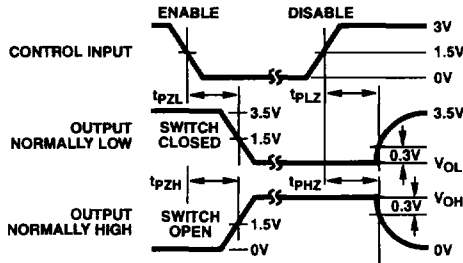

FIGURE 4. ENABLE AND DISABLE TIMING
**Switching Specifications Over Operating Range** FCT Series  $t_p, t_f = 2.5\text{ns}$ ,  $C_L = 50\text{pF}$ ,  $R_L$  (Figure 4) (Note 6)